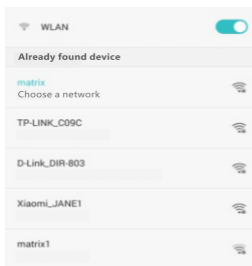

Figure 1
4.1.3 Then, connect mobile phone/tablet and the video matrix controller via hotspot "MATRIX" with each other(as figure 1, the wifi password is 12345678). At this time, open the downloaded APP"matrix control, will enter to the interface as figure 2, and APP control starts.